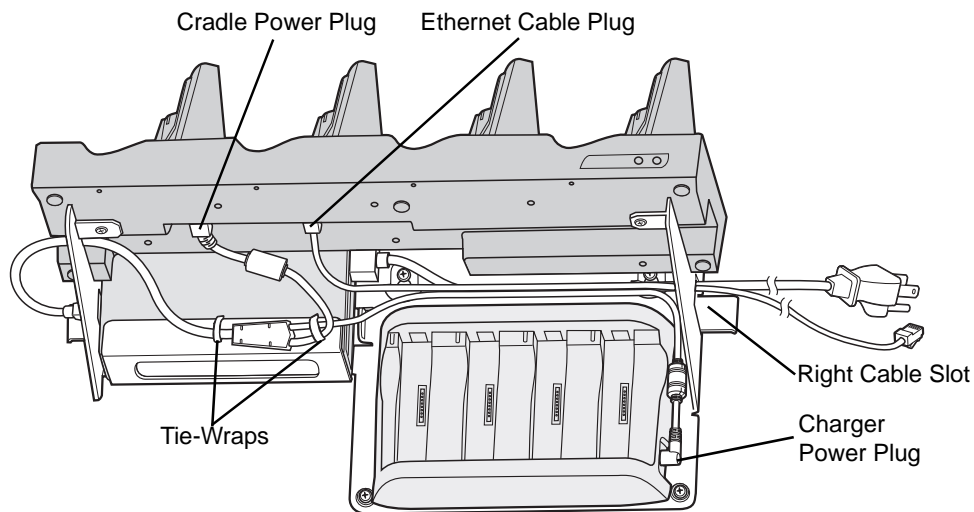
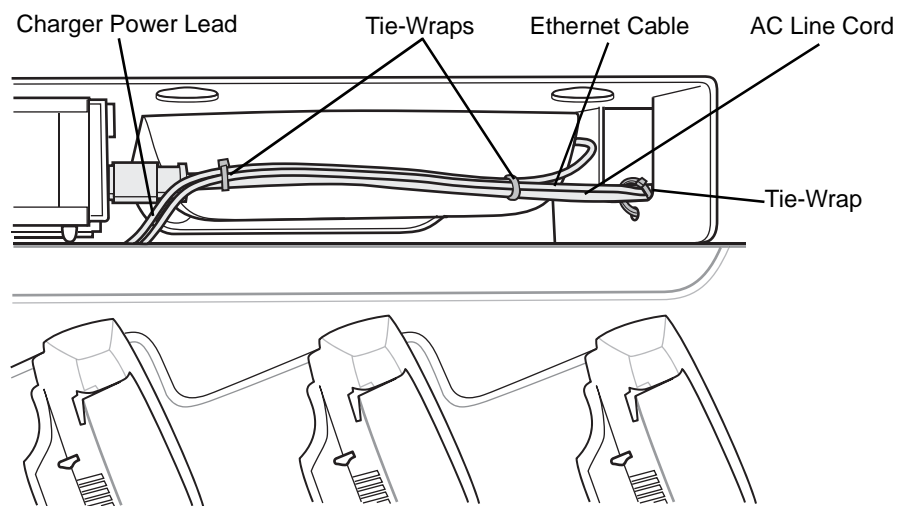

Figure 2-16 Cable Routing
Figure 2-17 Routing Cables
8. Route the cables as shown in Figure 2-16 and Figure 2-17.